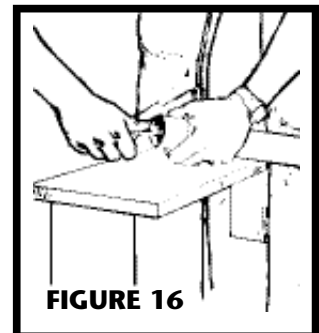

FIGURE 16
9. Refer to Figure 16. Remove burrs from both inside and outside of tubing.
5. Refer to Figure 16. Place inlet into mounting bracket and secure.